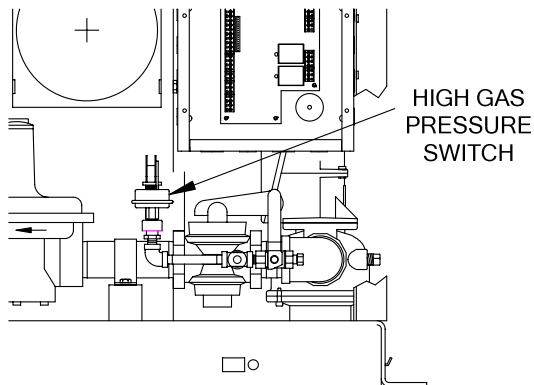

Figure 6.2
2. Remove either wire # 150 or wire #151 from the high gas pressure switch. See Fig. 6.2.